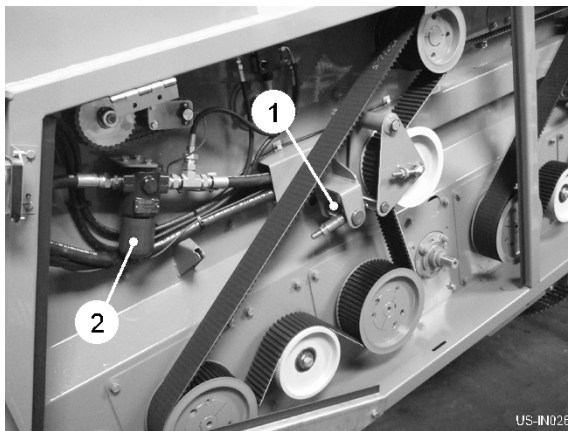
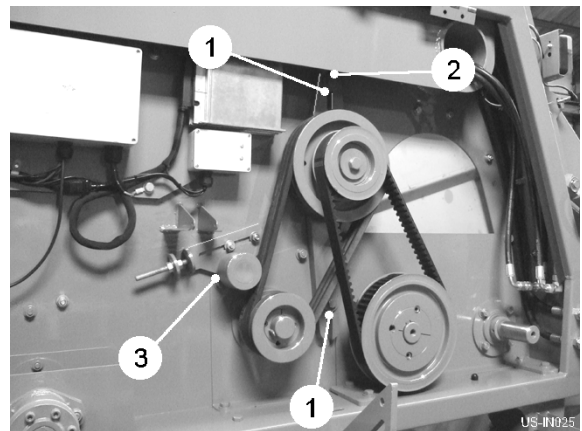

Fig 18
Fig 19
The toothed drive belts have adjusters (item 1, fig 18) that are visible when the appropriate guard is opened. As a guide, correct belt tension is achieved when, at a distance half way between the furthest spaced pulleys, the belt can be twisted no more than 45° longitudinally. To set the boulder box belt tension (if fitted), firstly set the toothed belt tension by loosening the fixing bolts (item 1, fig 19) and adjusting the tensioner bolt (item 2, fig 19). Finally, adjust the 'V' belt tensioner (item 3, fig 19). Set the 'V' belts tight enough to give a positive drive without undue stretching.
A pressure filter (item 2, fig 18) is mounted in the supply line from the tractor. The element should be replaced after the first 50 hours of running time and then annually or every 500 hours thereafter.